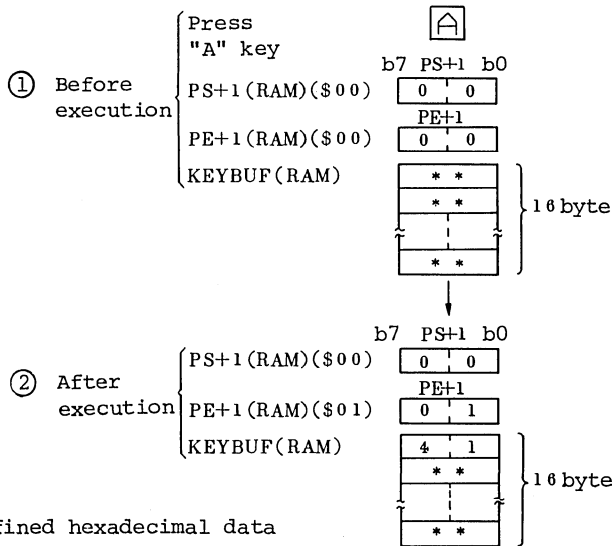

Figure 8-5. Example of KEYIN Execution
- b. Example of KEYIN execution is shown in figure 8-5. If "A" in ASCII keyboard is pressed as shown in part ① of figure 8-5, key data is written to roll buffer as shown in part ② of figure 8-5.